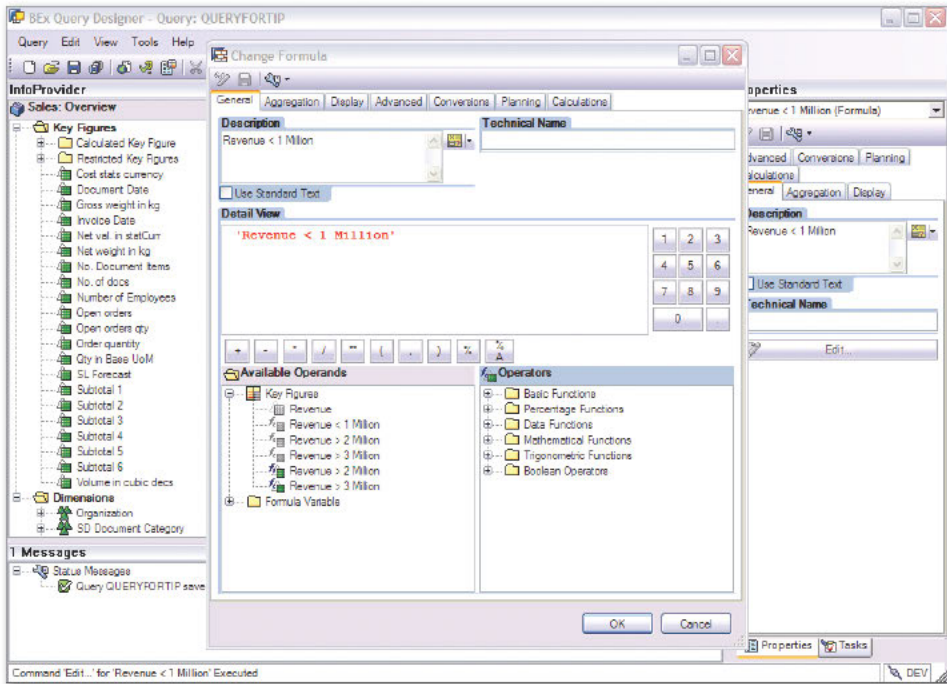

Figure 3 Creating Additional Formulas
5. Create three additional formulas with the respective formula buckets (created in the previous steps) as shown in Figure 3.
4. In the RENAME COMPONENT screen that appears (see Figure 3), enter new technical names for the key figures in the TECHNICAL NAME OF COPY column, and click OK. This step creates two new key figures at the InfoProvider level.
« *Figure 3 Rename Component Screen for Transaction RSZC*